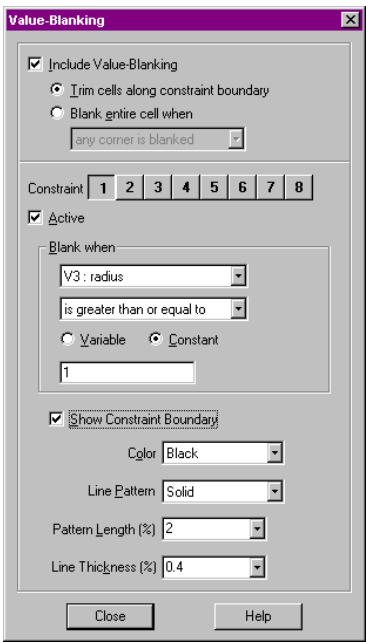

Figure 26-4. The Value-Blanking dialog for 2- and 3-D Cartesian plot types, set for precise blanking.
1. From the Plot menu, choose Blanking/Value-Blanking. The Value-Blanking dialog appears as in Figure 26-4.